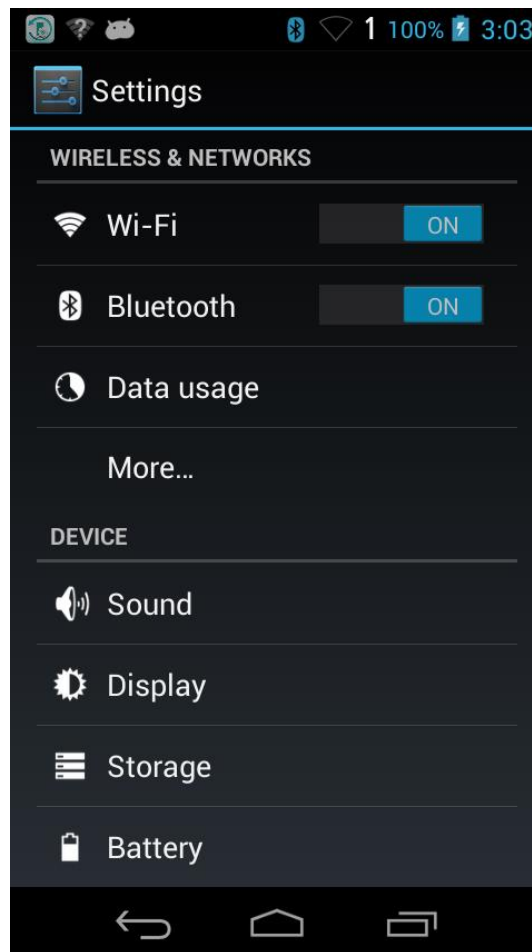

Figure 11 - Android Device Settings Screen
1. Enter the Settings screen of the Android device (see Figure 11). Insure that the slider next to the "Bluetooth" parameter is set to "ON". Tap "Bluetooth" to begin setting up a Bluetooth "partnership" (**Note:** For some Android versions the Bluetooth On/Off control may only appear on the Bluetooth Pairing screen (see Figure 12)).